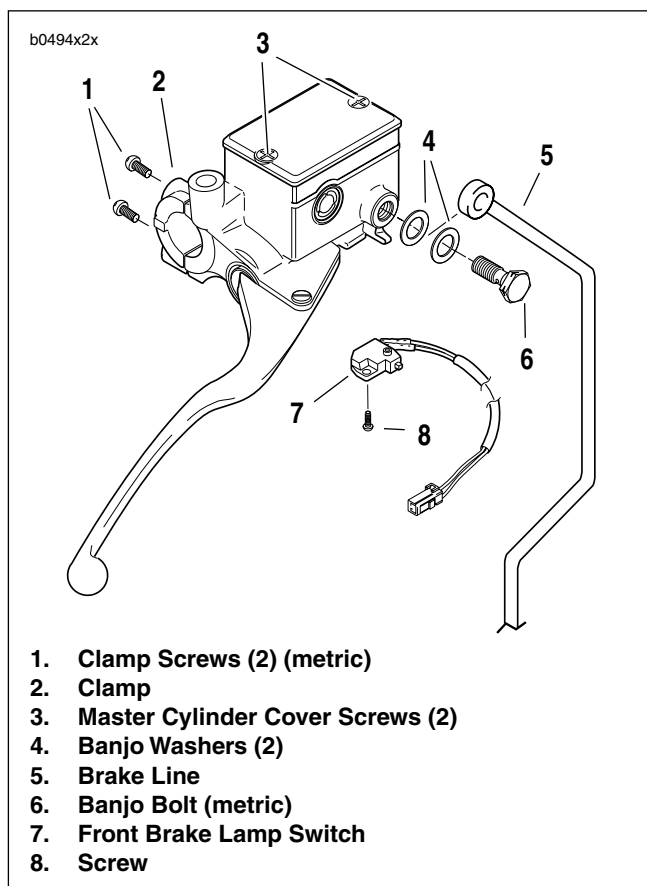
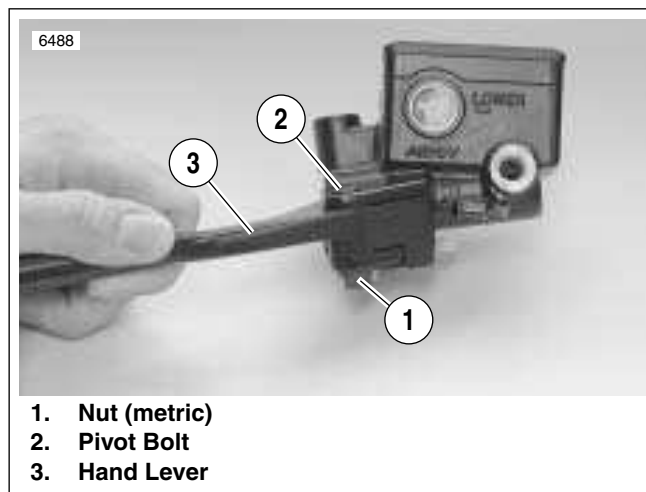
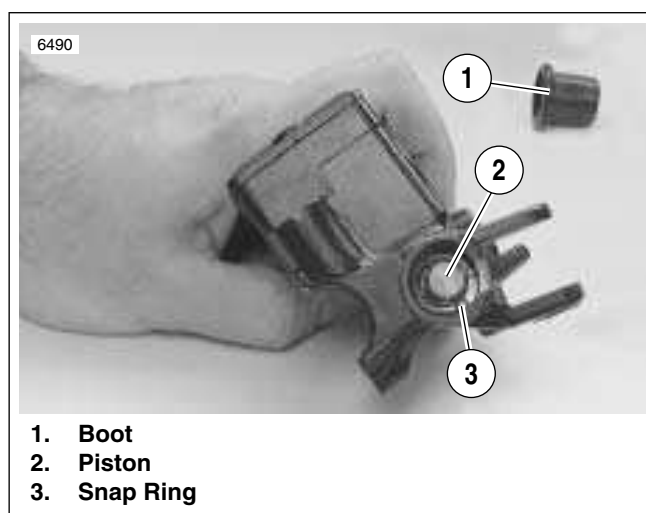
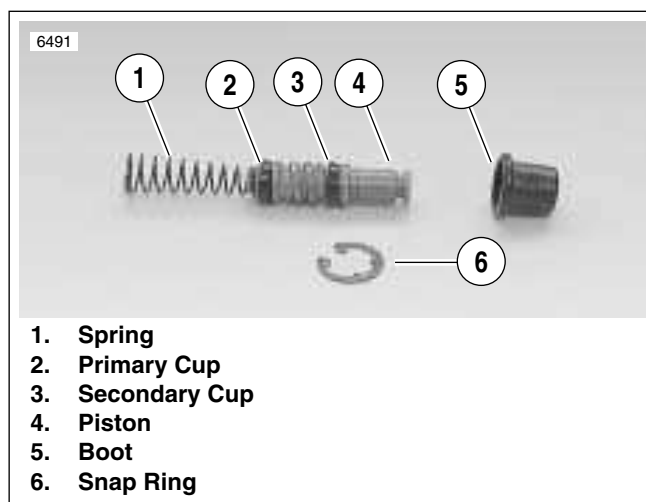

Figure 2-22. Front Master Cylinder
Figure 2-23. Hand Lever
Figure 2-24. Snap Ring
Figure 2-25. Piston Assembly
3. See Figure 2-22. Remove banjo bolt (6) (metric) and two banjo washers (4) to disconnect brake line (5) from master cylinder. Discard banjo washers.
4. Remove screw (8) or unplug both terminals to detach brake lamp switch (7).
1. See Figure 2-23. Detach front brake hand lever.
- a. Remove nut (1) (metric) from lever pivot.
- b. Remove pivot bolt (2) from lever pivot.
- c. Detach front brake hand lever (3) from master cylinder assembly.
3. See Figure 2-24. Compress piston (2) and remove rubber boot (1).
4. Depress piston assembly and remove internal snap ring (3). Discard snap ring.
5. See Figure 2-25. Remove piston assembly (1-4) from front master cylinder.
1. See Figure 2-25. Check piston assembly components.
- a. Small end of spring (1) sits behind primary cup (2). Large side of primary cup faces spring.
- b. Secondary cup (3) sits within ridge at middle of piston (4).
2. Insert piston assembly, spring first, into master cylinder. Secure with a **new** snap ring (6).
3. Install ridge on boot (5) into groove on piston (4).
4. See Figure 2-23. Install front brake hand lever.
- a. Align hole in lever (3) with hole in master cylinder assembly.
- b. Lubricate pivot bolt (2) with LOCTITE ANTI-SEIZE.
- d. Install nut (1) (metric). Tighten to 44-62 **in-lbs** (5-7 Nm).
5. See Figure 2-22. Install front brake lamp switch (7).
- a. Attach front brake lamp switch with screw (8). Tighten to 7-13 **in-lbs** (1-2 Nm).
1. See Figure 2-22. Fasten master cylinder to handlebar by installing clamp (2) and screws (1) (metric). Tighten to 80-90 **in-lbs** (9-10 Nm).